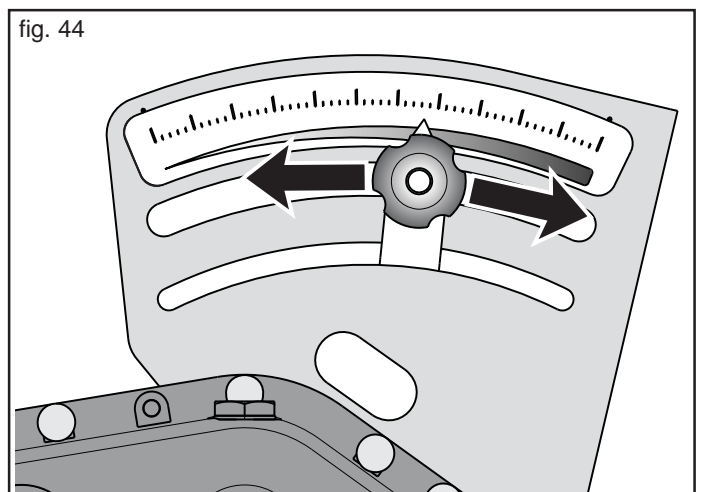

fig. 44
- 7) ... move the lever to «55» on the gauge, return it to «0» (zero) and then set it to the desired value (depending on the quantity of product to be distributed), by rotating the adjuster knob (Fig. 44).